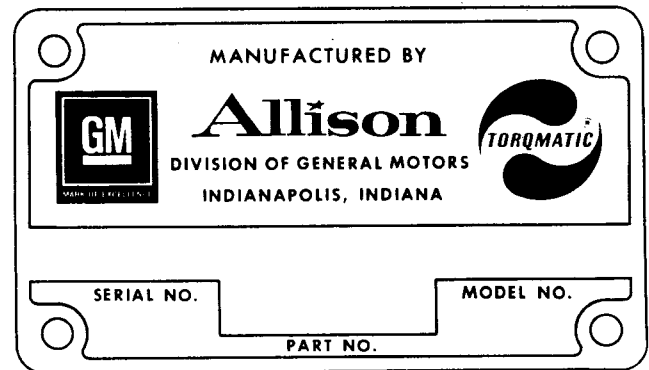

Fig. 1-5. Transmission nameplate
a. Transmission Nameplate. The nameplate, located on the left side of the transmission housing, gives the transmission model number, serial number, and assembly part number. To insure that the correct parts will be supplied, furnish all three of these numbers with each parts order. Also, when requesting any information, all three numbers should be supplied. Figure 1-5 illustrates the nameplate.